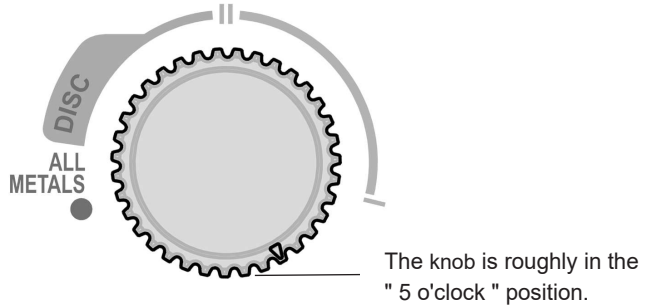

Figure 12. The ALL METALS/DISC Knob
4. To prevent the zinc penny from being detected, set the ALL METALS/DISC knob to about " 5 o'clock " ( see Figure 12 ). By now, only the 25-cent silver quarter should be detected.